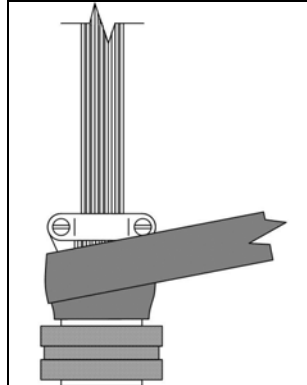

Figure 1
- 3.4.2** Begin wrapping the StretchSeal Tape around the connector to be protected, behind the coupling ring (nut). Stretch the tape 25 to 50% to ensure good compression around the connector body and rear accessories. (see figure 1)